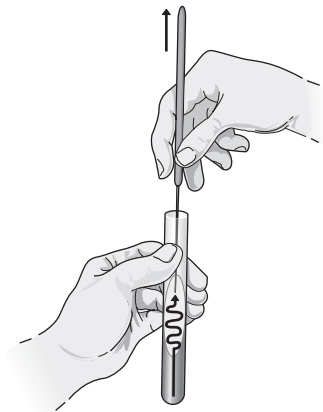

FIG. 13.3. Inoculation of TSIA.
- Inoculate the four tubes of TSIA with the assigned bacteria using an inoculating needle. When inoculating each tube, stab the needle *into* the bottom of the agar slant (butt), withdraw it, and streak the slant. When completed, each tube will have bacteria growing within the agar (anaerobic conditions) and on the surface (aerobic conditions) (Fig. 13.3).